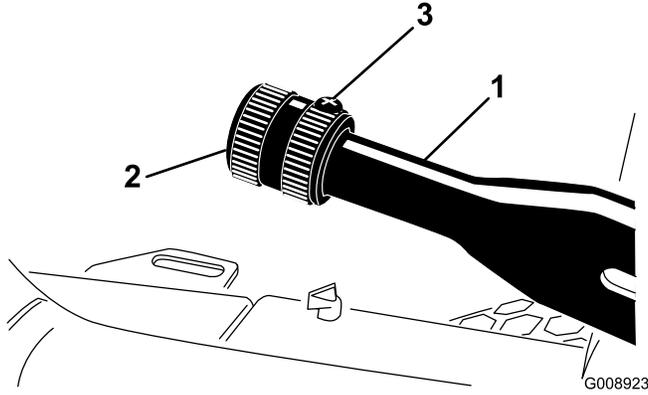

Figure 55
1. Loosen the set screw securing the knob to the parking-brake lever (Figure 55).